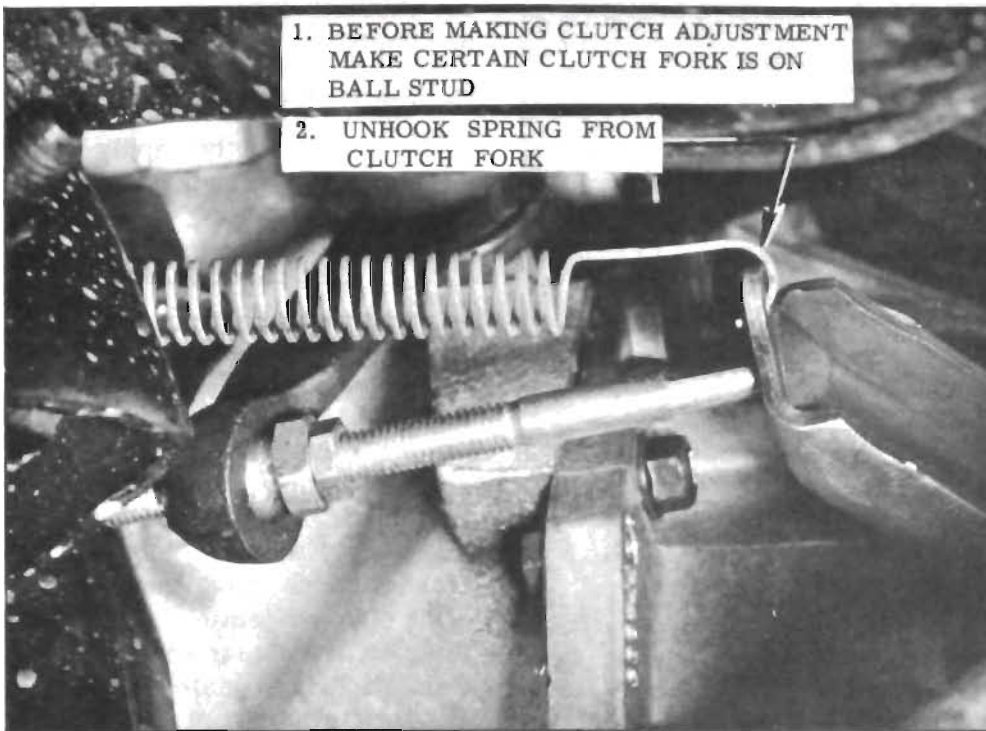

Figure 4-3—Removing Clutch Fork Spring
b. Proceed as shown in Figures 4-3, 4-4 and 4-5 for an alternate method of adjusting clutch lash: